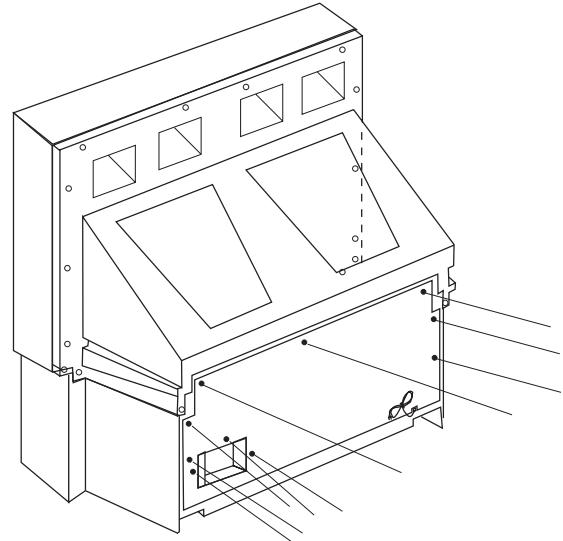

Figure 9. Lower Cabinet Back Removal
(Figure 9)
1. Remove (7) hex screws around its perimeter marked with arrows. (See Figure 9 for screw location).
2. Remove (3) screws from around the A/V terminal board (marked with arrows).
2. Remove the cabinet back lower. (Figure 9)